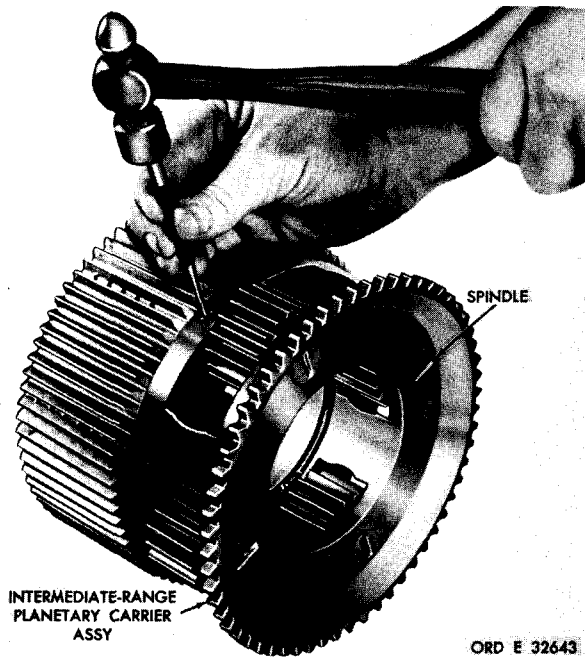

Figure 224. Removing spindle lock pin
b. Using a hammer and punch, remove four planetary carrier spindle lock pins (fig. 224).
j. Install a lock pin, using a hammer and punch (fig. 224). Drive the pin 0.030 to 0.060 below the adjacent carrier surface. Stake metal over the pin.